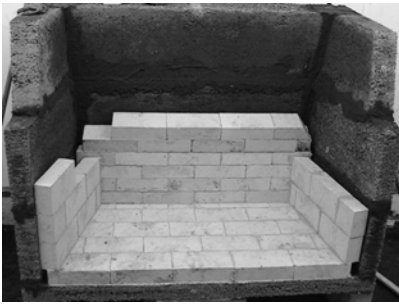

Figure 9. Firebrick Installation
F. After installation of the back plates and sidewalls, install the firebrick inside the firebox, using 1/8-inch mortar joints. Cover the floor first with 1/8-inch high temperature cement. On the side walls, stand the brick on its sides, and on the back wall, lay the brick flat, leaving 1/2-inch air space between the firebrick and fireplaces walls. Stack brick until it is flush with the tops of pieces 5A, 5B, 6 and 7. See Figures 9 and 10.